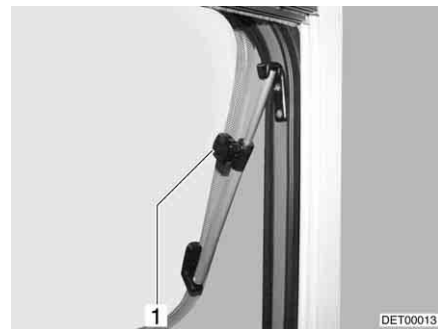

Fig. 65 Skylight with rotary hinges, open
- Open the skylight until the required position has been reached and use knurled knob (Fig. 65,1) to secure in position.
- Turn knurled knob (Fig. 65,1) until the latch is released.